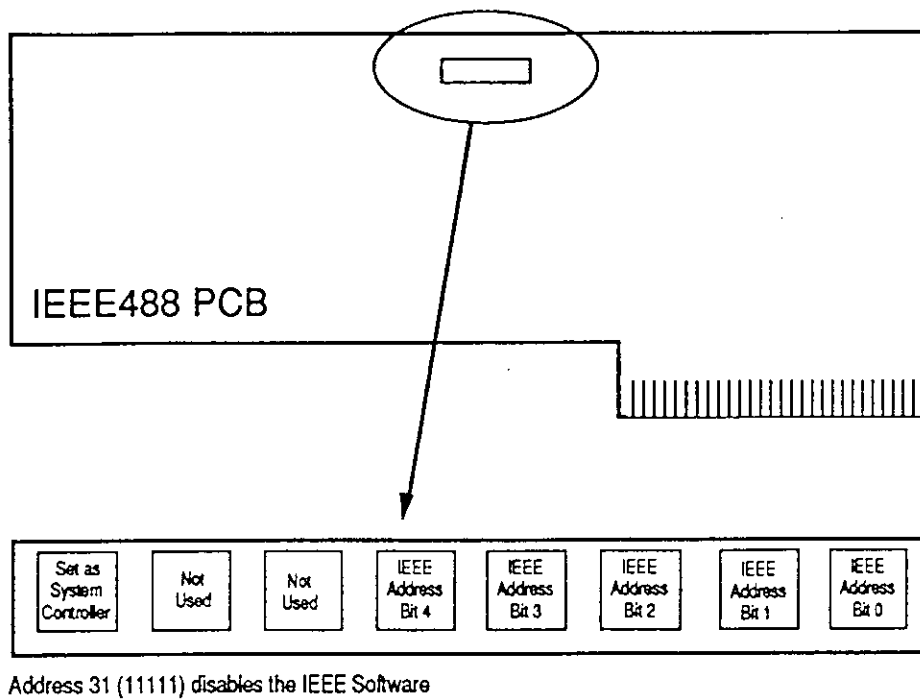

Figure 2 - IEEE 488 Switch Settings
- (1) Lay the old and replacement unit side by side and locate the 8 DIL switches, Figure 2 overleaf refers.
- (2) Set the DIL switches on the replacement unit to the same as the old unit to retain the same hardware address.